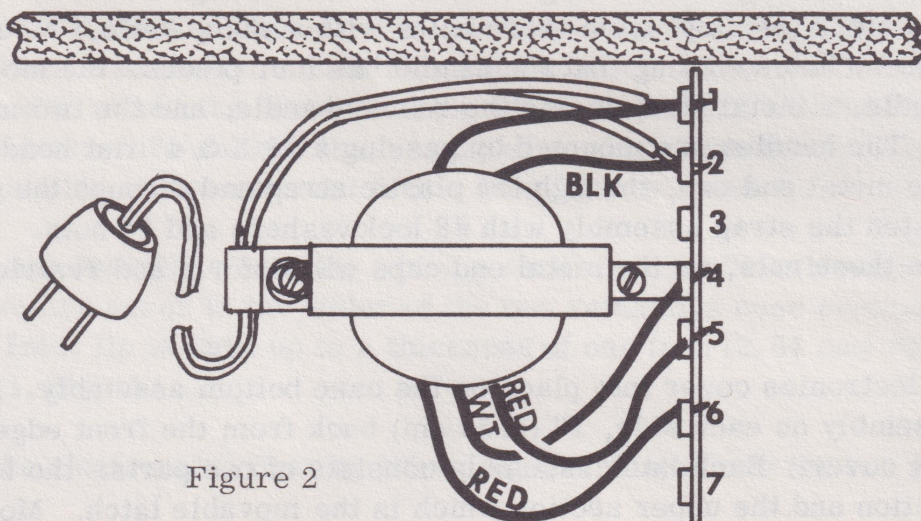

Figure 2
- () Using one #4 X 3/8" metal screw and one #6 flat washer, mount the clamp/line cord assembly and one end of the power transformer (T1) to the case bottom. Note the orientation of cable clamp, transformer, and leads as shown in power supply detail figure 2.
- () Using one #4 X 3/8" metal screw, mount the previously prepared terminal strip and the remaining end of the power transformer (T1) as shown in figure 2.